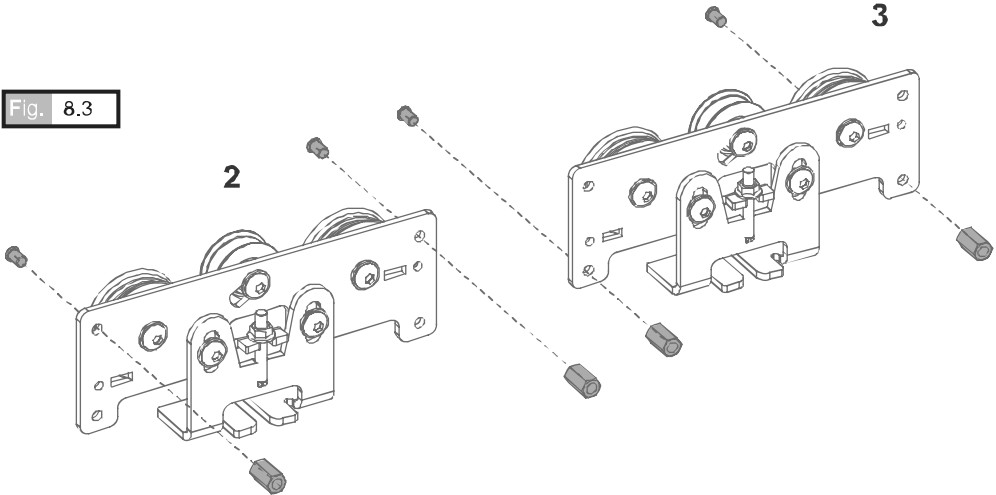
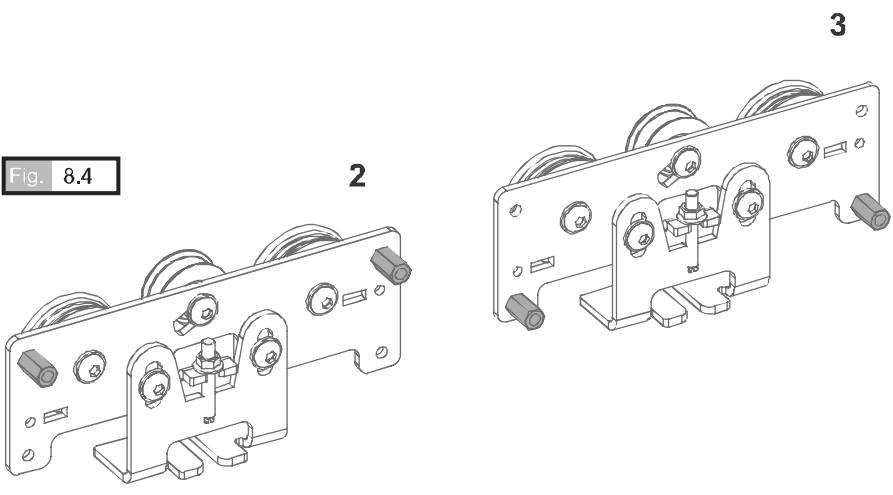

Fig. 8.3
Fig. 8.4
**i** Screw separators to trolleys 2-3 according to the layout shown in the diagrams. **Fig. 8.3** **Fig. 8.4**